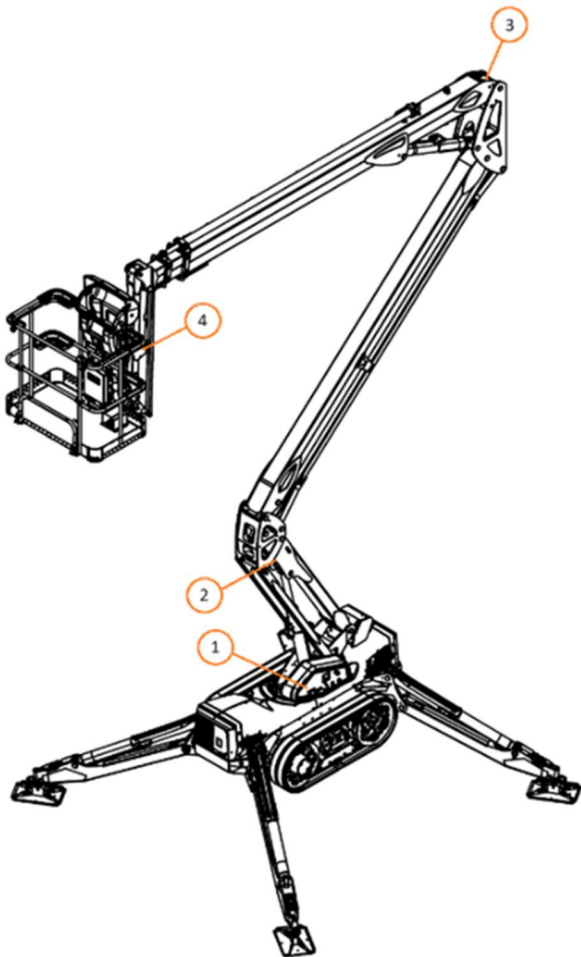

Figure 42. Machine's position sensors
There are four (4) position sensors on the access platform. One of the sensors is inside the lower control panel which measures the inclination of the chassis (figure 42 (1)). Three other sensors are located in the boom structure. One in the lower boom at the upper end of the cylinder (figure 42 (2)), one inside the upper boom under the service hatch (figure 42 (3)) and one in the jib boom at the lower end of the cylinder underneath the protective cover (figure 42 (4)).